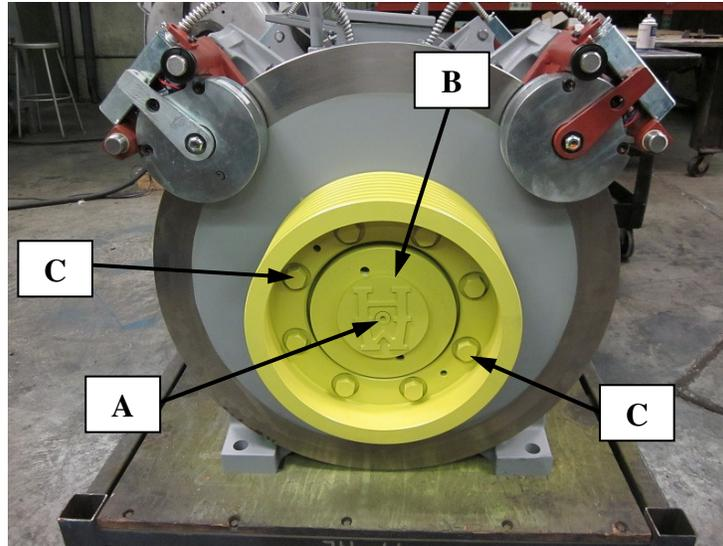

Figure 4
- After the rotor lock bolts are in place, remove the bolt "A" holding on the "HW" logo plate "B", and remove the logo plate. Next remove 2 of the traction sheave body bolts, "C." It will not matter which 2 bolts are removed, as long as the 2 bolts are on opposite sides of the centerline of the shaft. Refer to Figure 4. (The entire traction sheave may be removed if so desired, but it is not necessary. Follow Bulletin 1156 - "Traction Sheave Replacement" if the traction sheave is to be completely removed.)